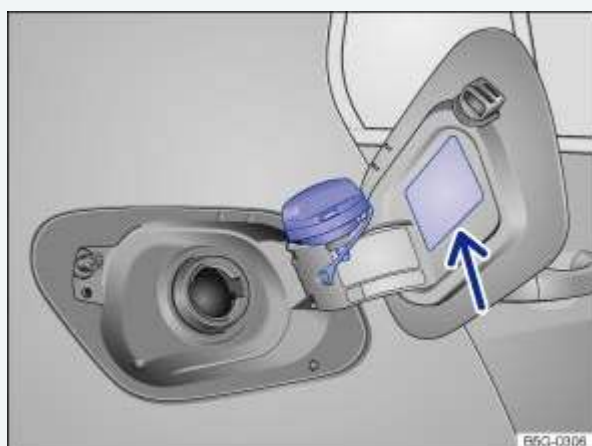

Fig. 195 Right rear side of vehicle: Fuel cap placed on the open fuel filler flap.
- Unscrew the fuel cap counterclockwise and remove. Use the slot on the fuel filler flap hinge ⇒ Fig. 195 to hold the cap while refueling.
The correct fuel grade for your vehicle ⇒ Fuel is listed on a sticker on the inside of the fuel filler flap ⇒ Fig. 195 (arrow).
The correct fuel grade for your engine is shown on a sticker located on the inside of the fuel filler flap ⇒ Fig. 195.